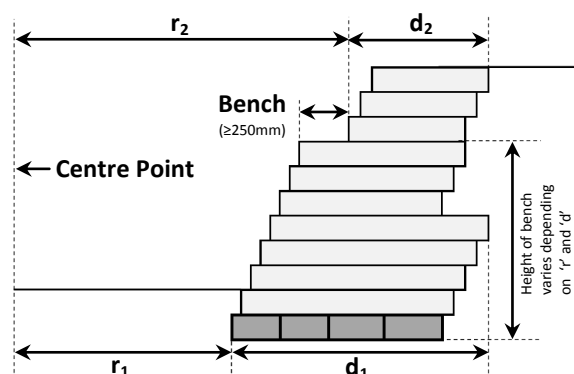

Fig. 4: Measurement Points for a Bench (see Note 2)
2. A wall with a tight radius of curvature 'r', or a large wall depth 'd' may require a bench to avoid excessive stretching or bunching of the cells (Fig 4). In this case the wall depth can first be measured as being from the toe of the wall to the back of the rearmost cell below the bench (see 'd₁' in Fig 4). For construction of the wall above the bench the radius of curvature should be increased proportionally ('r₂') and the wall depth measured from the 'toe' of the upper bench to the back of the rearmost cell ('d₂'). The bench should have a set back of at least 250mm. If required, contact ABG for further advice.